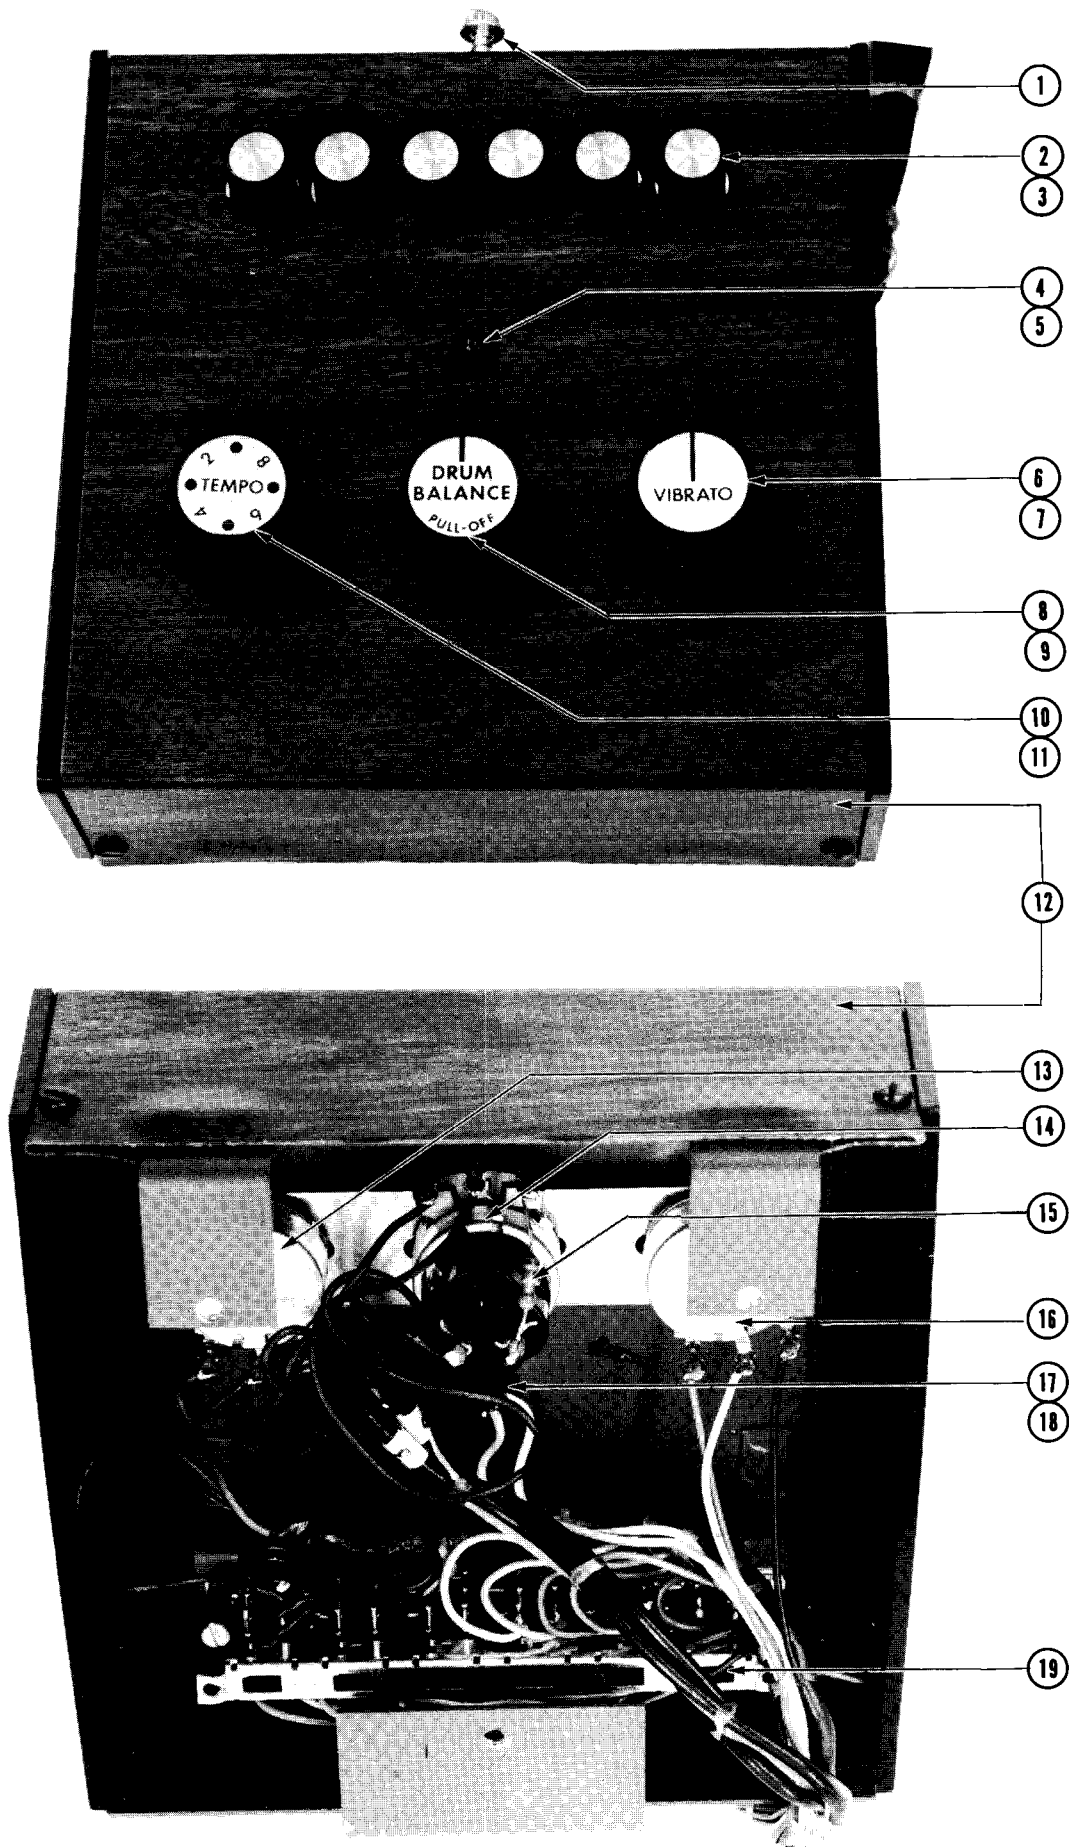

FIG. 9 — CENTER CONTROL KEYCAP ASSY.
DESCRIPTION - FIG. 9
8. Center Keycap (Fig. 9)